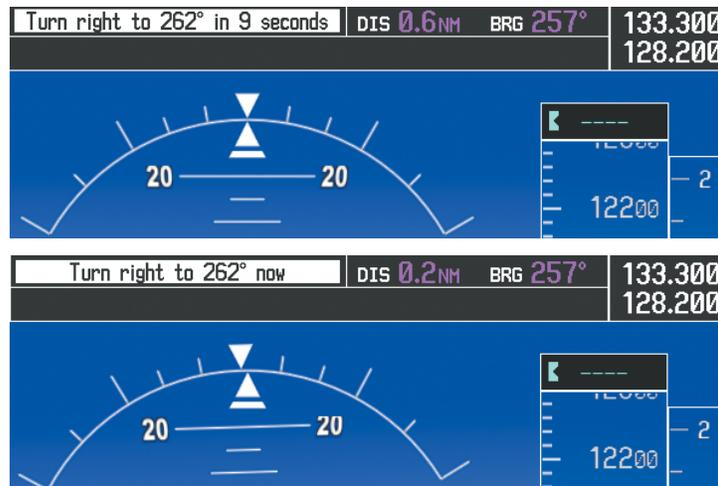

Figure 5-122 Turn to Intercept V244
8) At SLN, Victor Airway 244 (V244) is intercepted. Turn prompts are displayed in the PFD Navigation Status Box as seen in Figure 5-122.